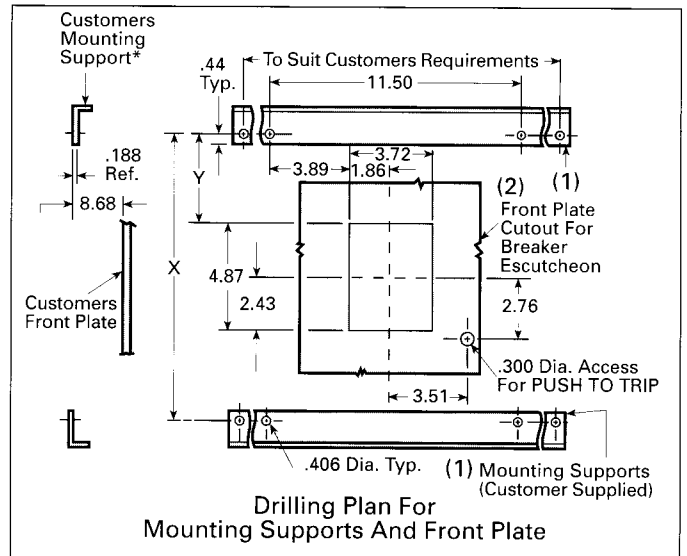

Figure 1
- A. Provide suitable mounting supports **(1)** and drill holes as shown in Figure 1. (Recommended use of 1-3/8 x 7/8 x 3/16 steel angle.)